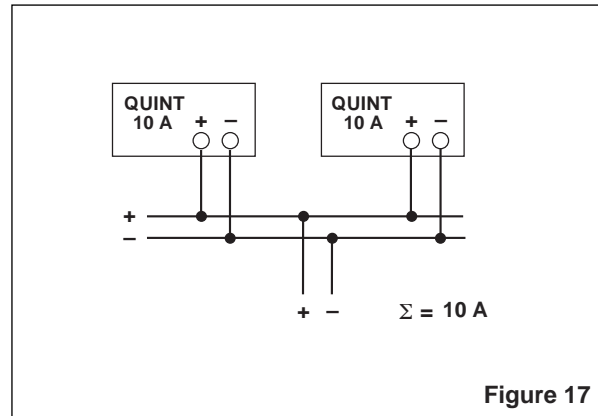

Figure 17
7.4. Redundancy Operation (Figure 17)